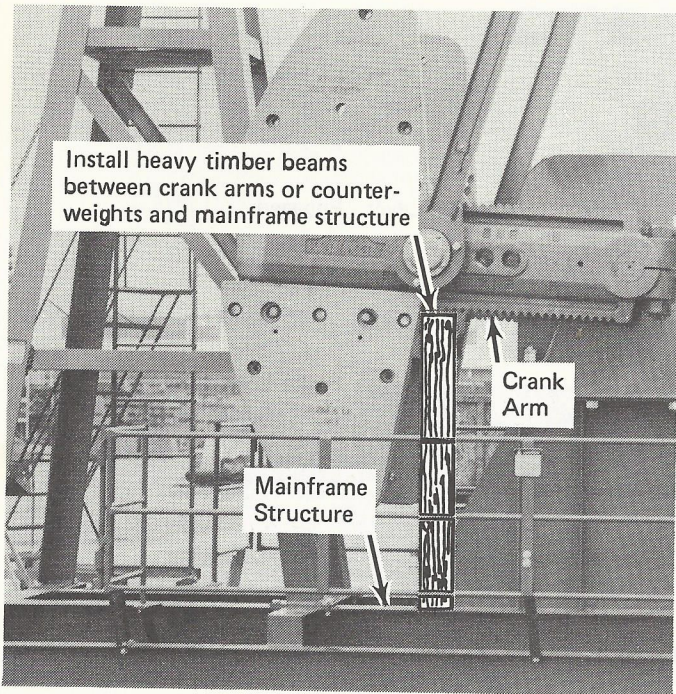

Figure 35
! WARNING! When checking, servicing or performing maintenance, install safety stops per figure 35 to prevent injury due to accidental rotation of the crank arms. DO NOT depend on the brake as a safety device.
Safety stops such as heavy timbers should be placed between the crank arms and a structural member of the mainframe as shown in figure 35 to prevent rotation any time personnel are in the vicinity of moving parts. Due to the large size of the parts involved, it must be pointed out that the safety devices must be securely installed against an adequate retainer and of sufficient size and strength to retain the weight and force. Chains or cables may be used, provided they can be securely attached and in a manner that will not result in damage to the securing part.
2. Set brake and install safety devices per figure 35.